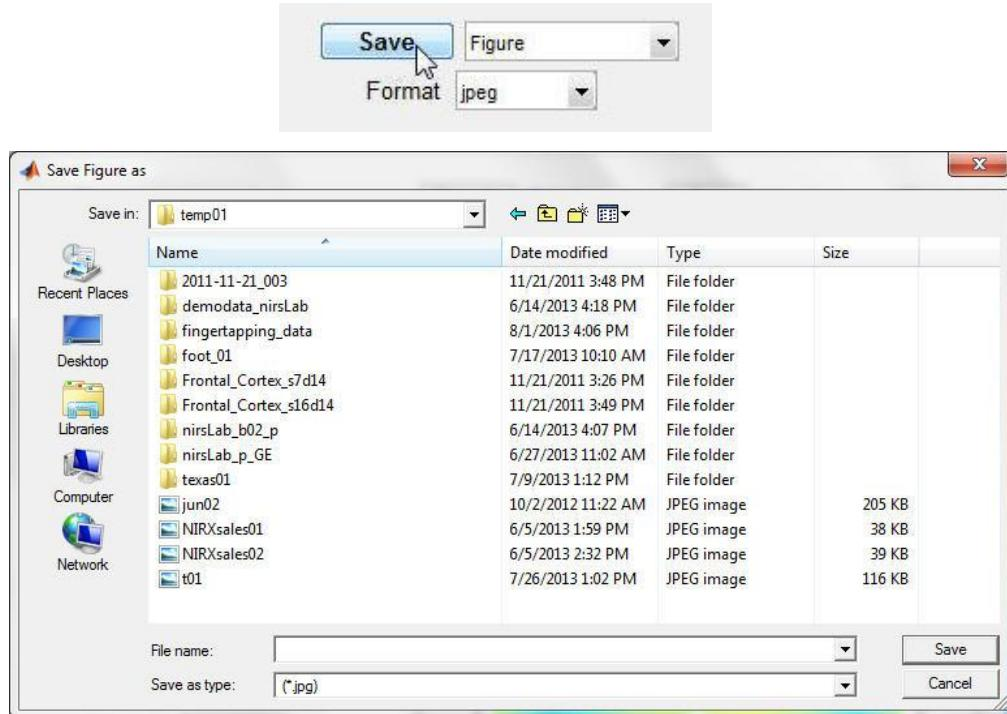

Figure 5-68. Specifying the file name and folder for the saving figure.
Step 3: Click the **Save** button to open a browser window for saving the map, as shown in Figure 5-68.